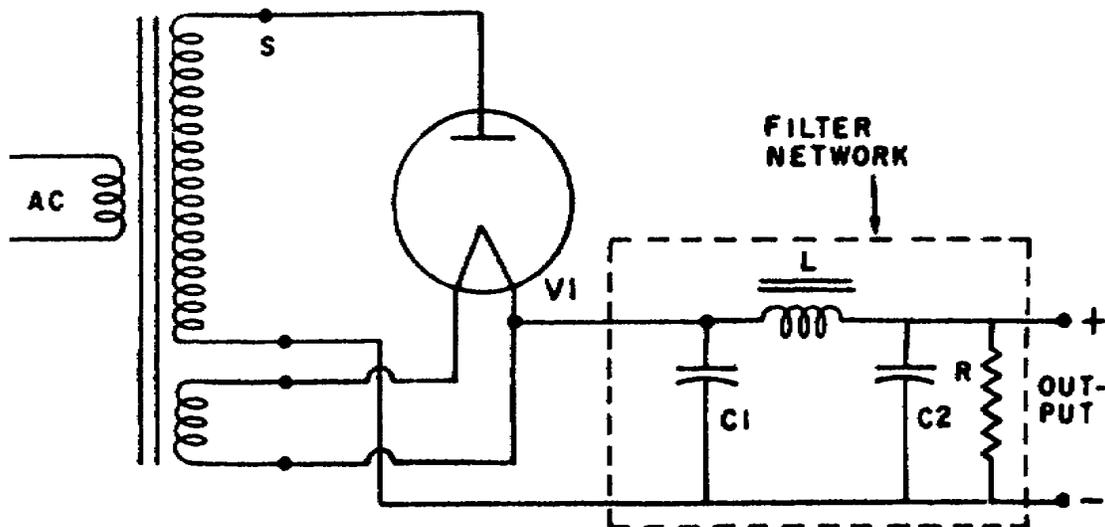

Figure 91. Filter network added to a half-wave rectifier.
13. Look at the complete electrical circuit of figure 91. Filtering is accomplished by connecting capacitors, choke coils (inductors), and resistors in the proper manner. If a filter network is added to the half-wave rectifier, a satisfactory degree of filtering can be obtained. Capacitors C_1 and C_2 have a small reactance at the a.c. frequency, and they are connected across the load resistor, R . These capacitors will become charged during the positive half-cycles as voltage is applied across the load resistor. The capacitors will discharge through R and L during the negative half-cycles, when the tube is not conducting, thus tending to smooth out, or filter out, the